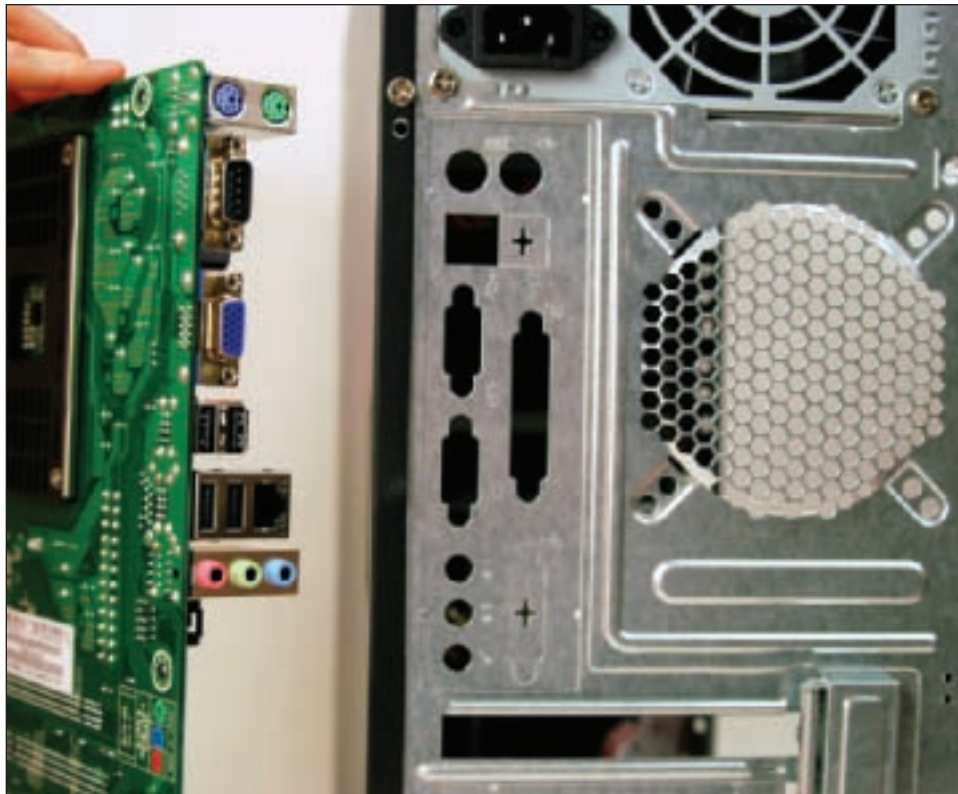
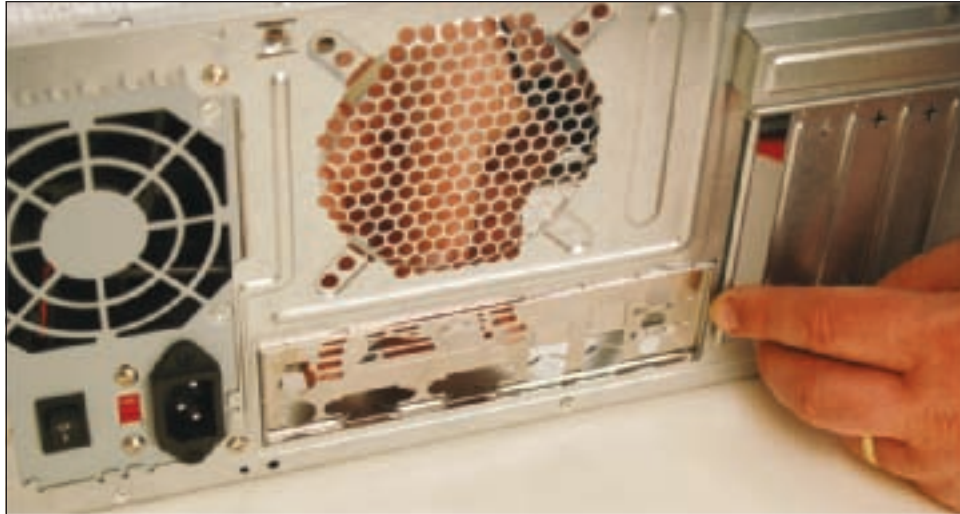

Figure 5-43 The computer case comes with an installed I/O shield but it does not match up with ports on the motherboard
Figure 5-44 Install the I/O shield in the hole at the rear of the PC case
1. Install the I/O shield, which is a metal plate that comes with the motherboard and fits over the ports to create a well-fitting enclosure for them. A case might come with a standard I/O shield already in place (see Figure 5-43). But when you hold the motherboard up to that shield, you can see the ports on the board will not fit into the holes. Remove this I/O shield (for this particular case, you have to punch it out). The I/O shield that comes packaged with the board can then be installed (see Figure 5-44).